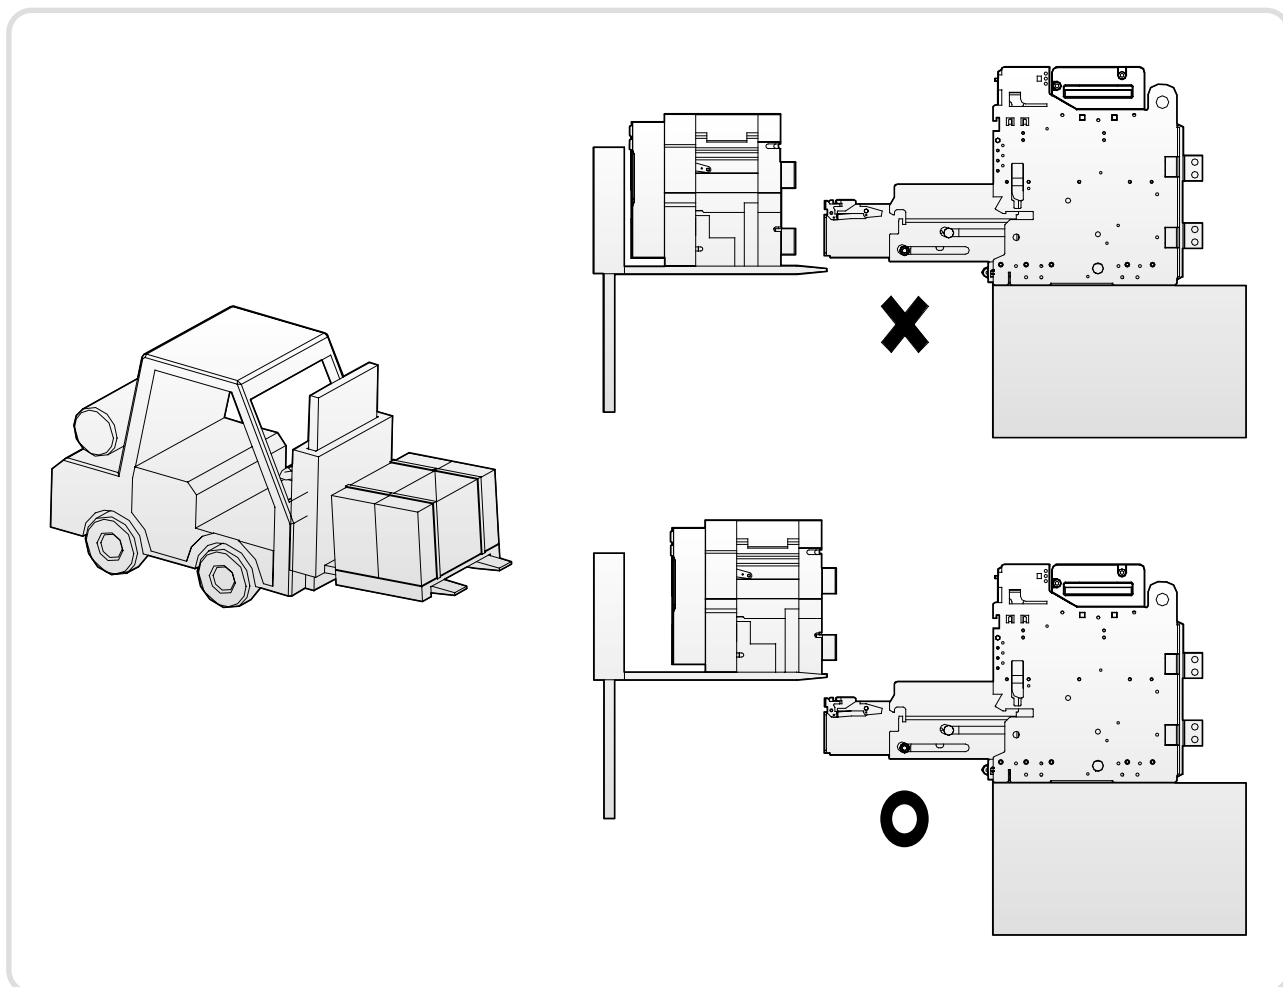

Fig 1. Lifting by forklift
This breaker and cradle are designed to move easily by overhead lifting devices such as hoisters. You can use lifting hooks which is optional to move them without difficulty. All the carrying devices should be suited to the product's permissible weight which is presented in Table.1. In case of using forklift, refer to figure.1.
- When lifting products with forklift, be careful with the bottom plane not to be beyond the rear side of products. (Refer to fig.1)